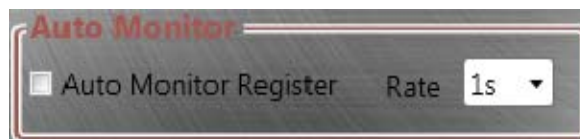

Figure 9: Resistor Auto-Monitor
7. The resistor auto-monitor can also be set using this program (see Figure 9).